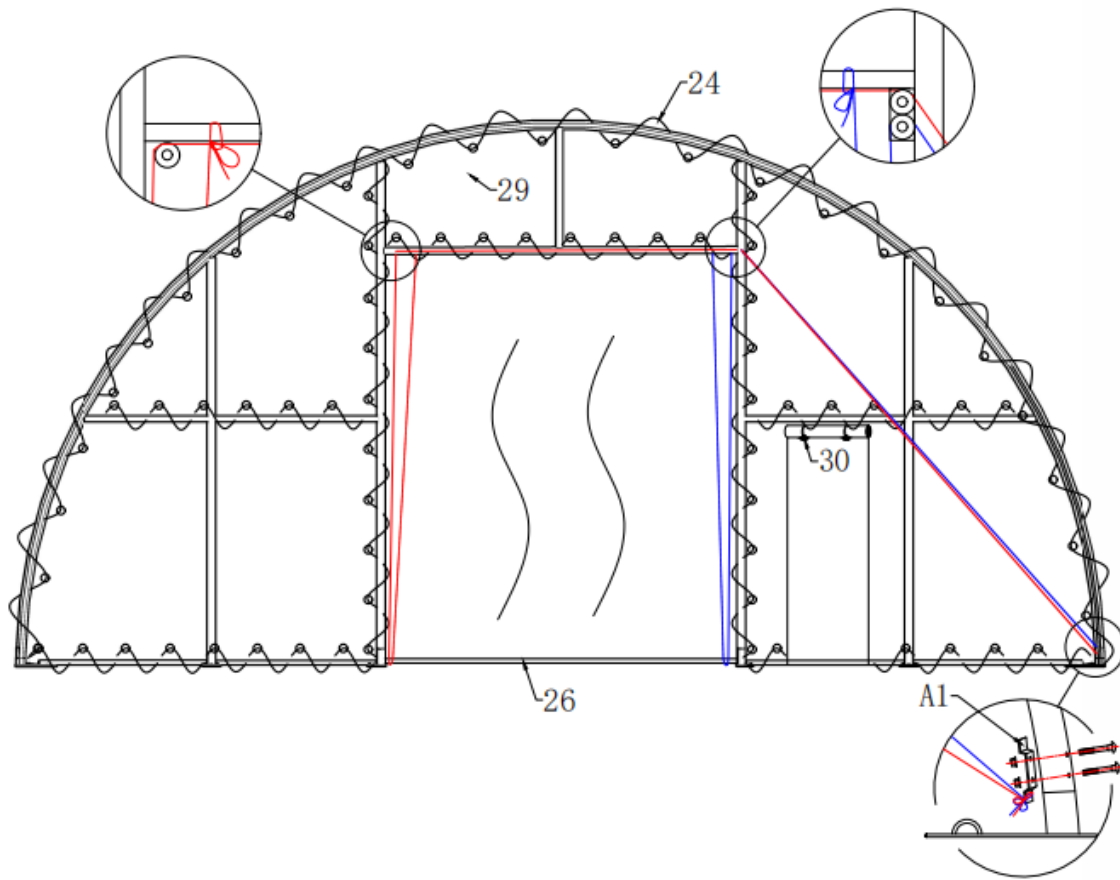

Figure 8
2. Please use rope to tie the cover for front and back door frame. (Figure 8).